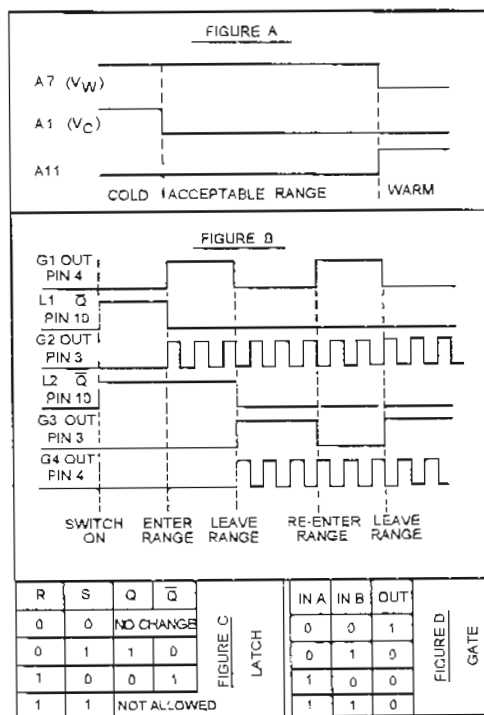

Figure 3-9. Logic diagram.
e. The logic diagram (fig 3-9) shows the performance of the monitoring signals.